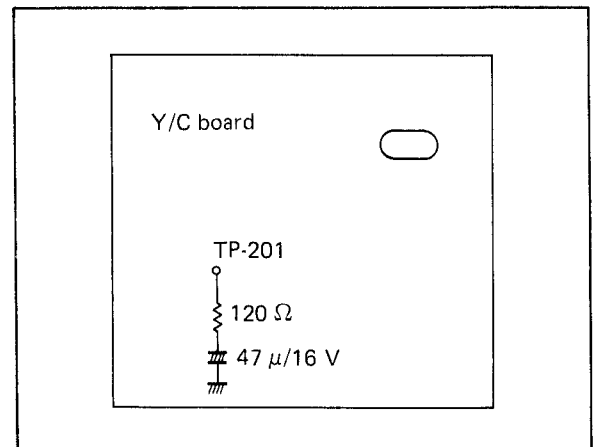

Fig. 6-38 Record colour killer
3. Then connect an attenuator between the TP-201 and the ground as shown in Fig. 6-38.